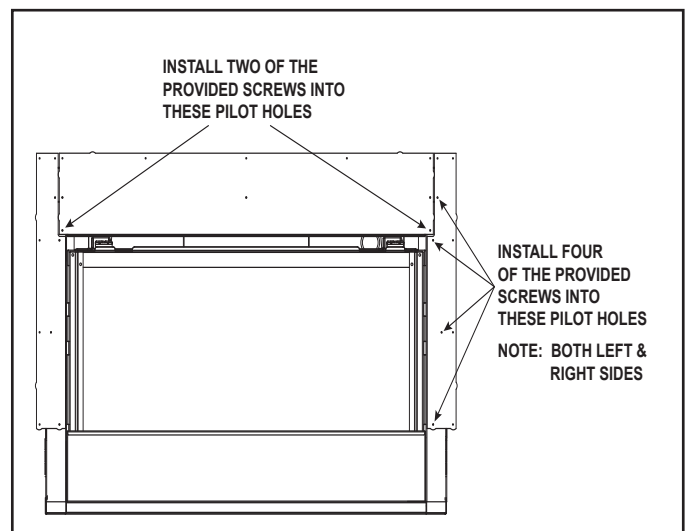

Figure 6.8 Installation of the Side Non-Combustible Components
4. Further secure the top non-combustible board by installing screws into the pilot holes located in the upper left and right corners of the top non-combustible board as shown in Figure 6.8.
5. Install the left and right non-combustible components with four of the provided Phillips screws. See Figure 6.8.